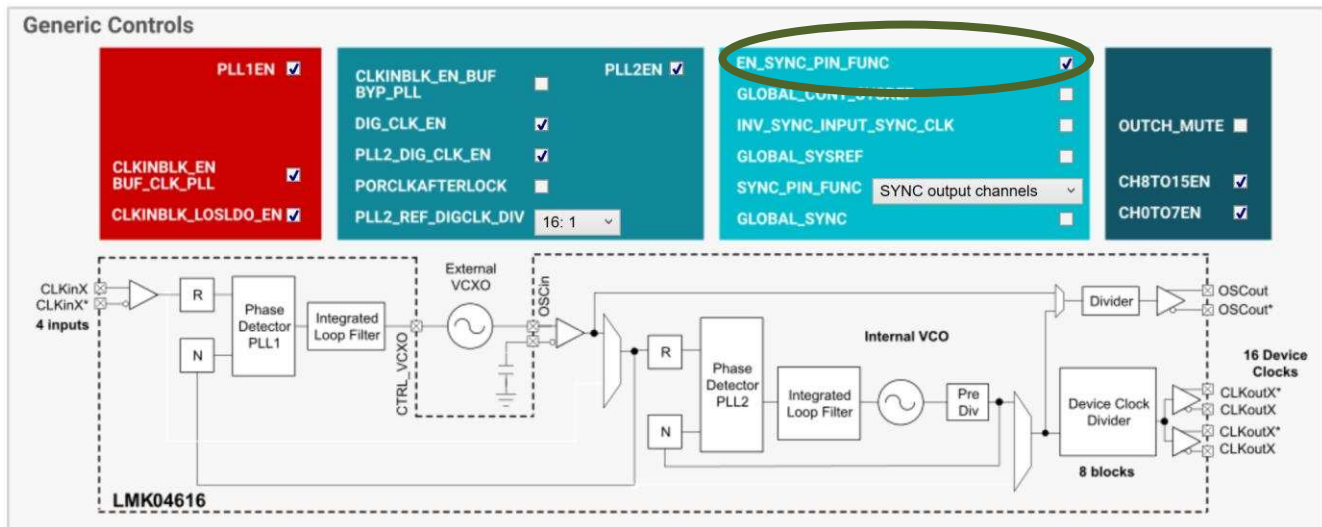

Figure 7. TICSpro Setting for SYNC Pin Function Enable
- Go to Generic Tab and set the EN\_SYNC\_PIN\_FUNC as Figure 7 shows.